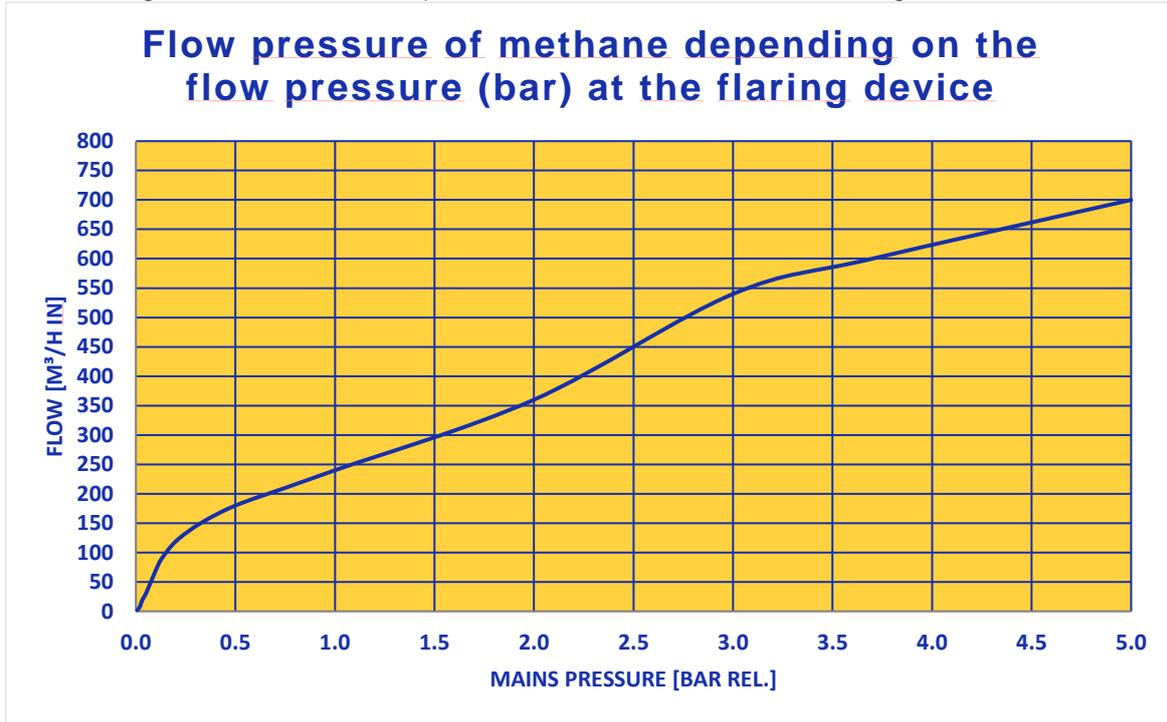
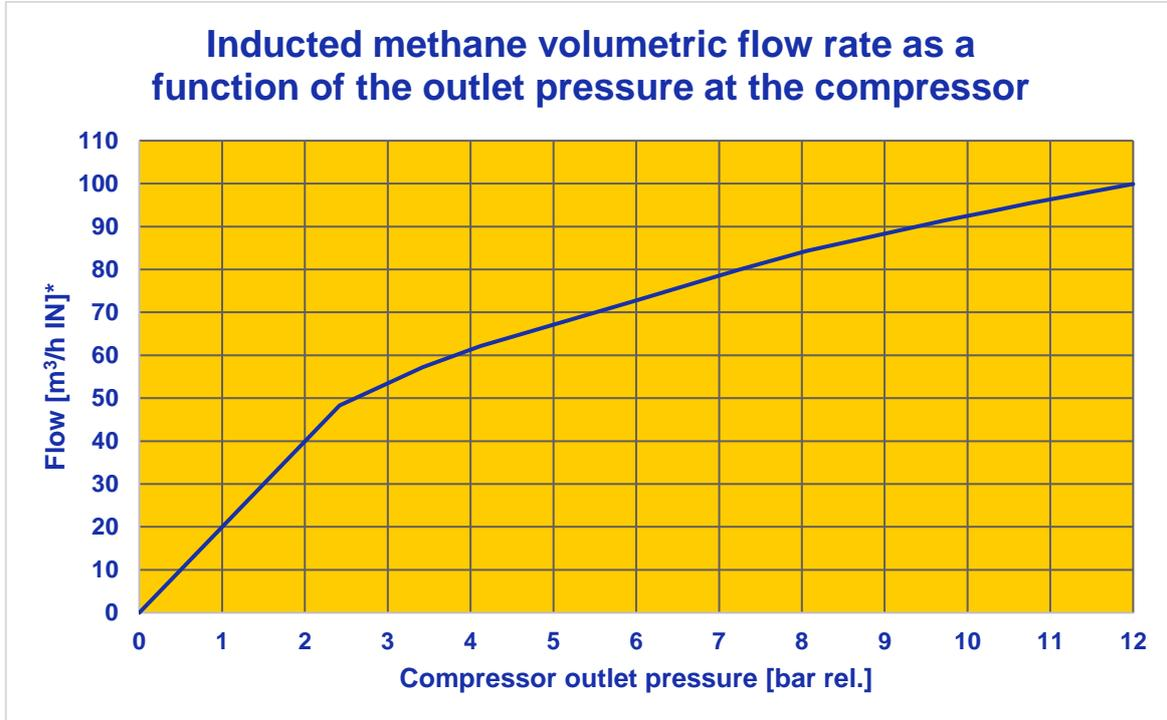

Figure 4: Flow pressure of methane depending on the flow pressure (bar) at the flaring device
Figure 5: Relationship between inducted methane volumetric flow rate and the compressor outlet pressure at the compressor
- Volumetric flow: See charts (Figure 4: and Figure 5: on page 8 )
\* Explanation of Y axis in Figure 4: and Figure 5: